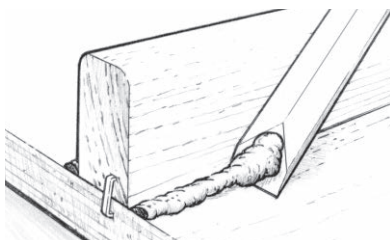

Figure 12 Remove or shape excess epoxy that squeezes out of the joint.
- Remove or shape excess adhesive that squeezes out of the joint as soon as the joint is secured with clamps. An 804 mixing stick is an ideal tool for removing the excess (Figure 12). Allow to cure thoroughly before removing clamps.